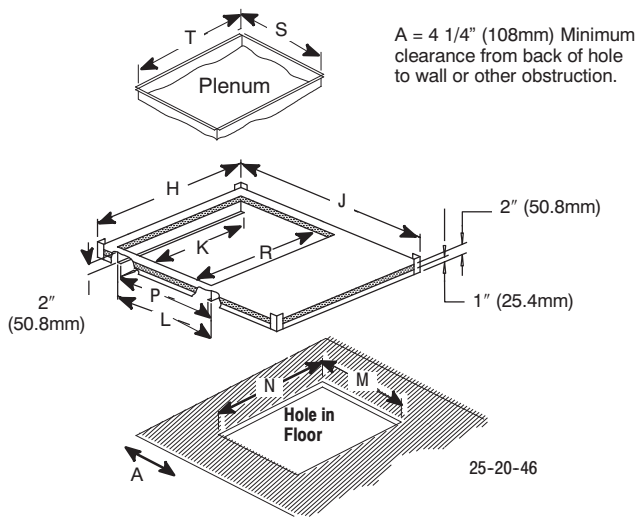

Fig. 47 - Exploded View of Subbase for Furnace Only
Fabricate a plenum to the dimensions given in Fig. 47, for the furnace outlet. Plenum should be flanged, approximately 3/4" (19.1mm) for support.
3. Set the base over the opening in the floor, centering it over the opening. Fasten the base to the floor with screws or nails. See Fig. 47, 48, and 49.